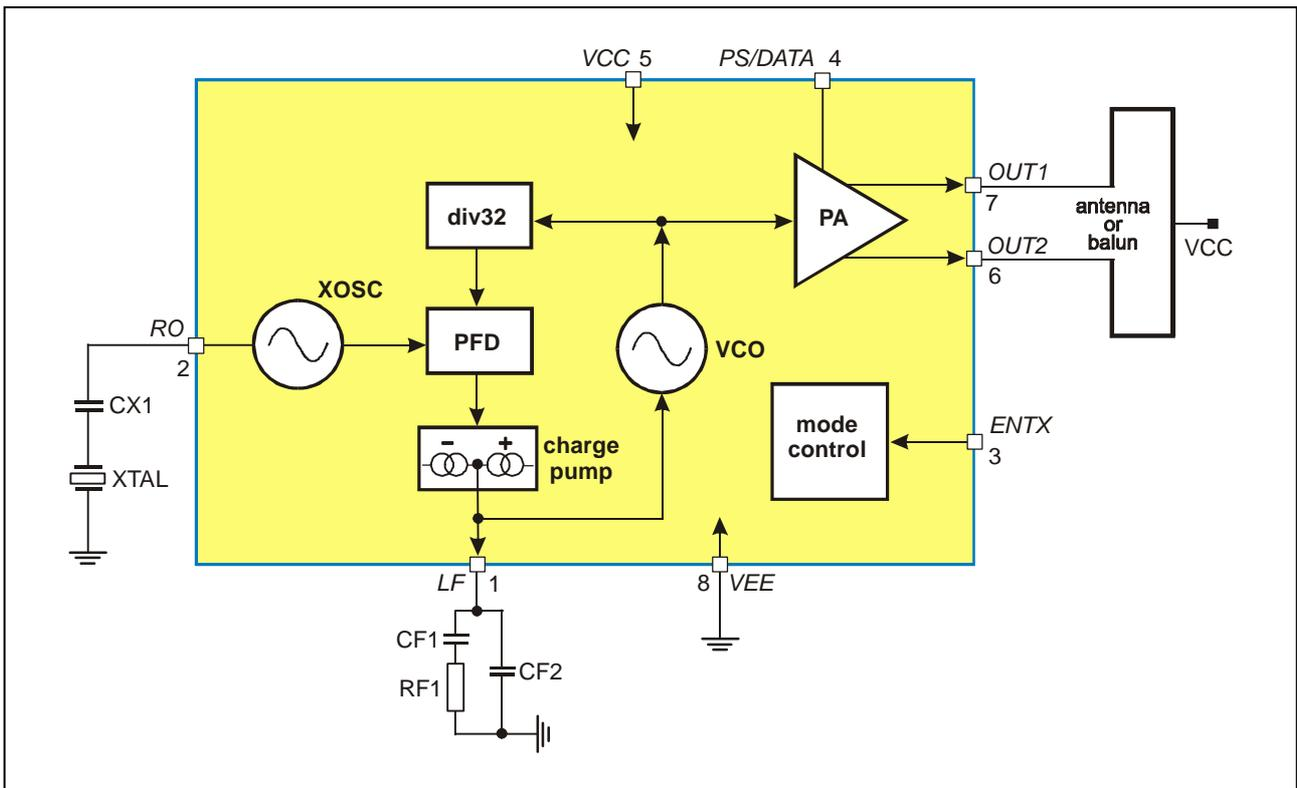

Fig. 1: Block diagram with external components
As depicted in Fig.1, the TH71081 transmitter consists of a fully integrated voltage-controlled oscillator (VCO), a divide-by-32 divider (div32), a phase-frequency detector (PFD) and a charge pump. An external loop filter at pin LF determines the dynamic behaviour of the PLL and suppresses reference spurious signals. The VCO's output signal feeds the power amplifier (PA). RF signal power P_o can be adjusted in six steps from $P_o = -15$ dBm to +1 dBm either by changing the value of resistor R1 or by varying the voltage V_{PS} at pin PS/DATA. The open-collector differential output (OUT1, OUT2) can be used to either directly drive a loop antenna or to be converted to a single-ended impedance by means of a balanced-to-unbalanced (balun) transformer. For maximum available output power, the differential output should be matched to a load of about 1 k Ω .